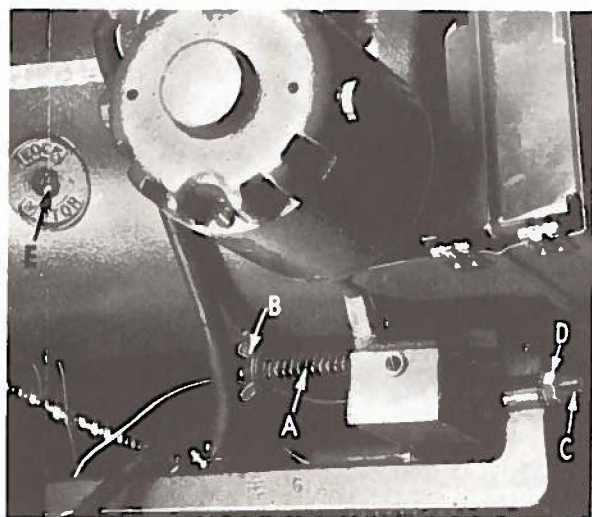

Fig. 38
2. Adjust clutch arm spring (A, Fig. 38) so that treadle will return to stop (wing nut washer (B) is to be approximately 1/2 inch from end of stud).
2. Adjust clutch so that clutch arm has approximately 1/16 to 1/8 inch travel before clutch is engaged. Loosen lock screw (E, Fig. 38) (where it says Lock Motor) just enough to unlock it, which is approximately one turn. Adjust screw located near the top on the right end of the motor until clutch engages as described above. Tighten lock screw (E).